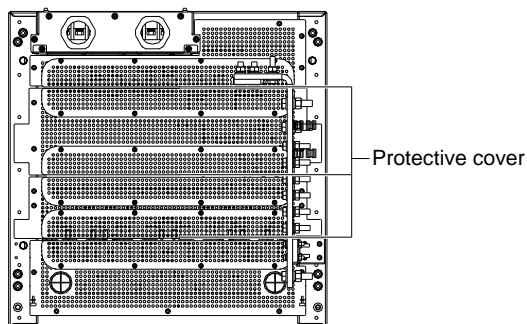

Figure 3-12 Top cover
3. If using top cabling method, users should cut the corresponding protective covers (material: yellow epoxy resin) in the top cover according to the cable routes before using top cabling method to route the cables. The protective covers are shown in Figure 3-12.